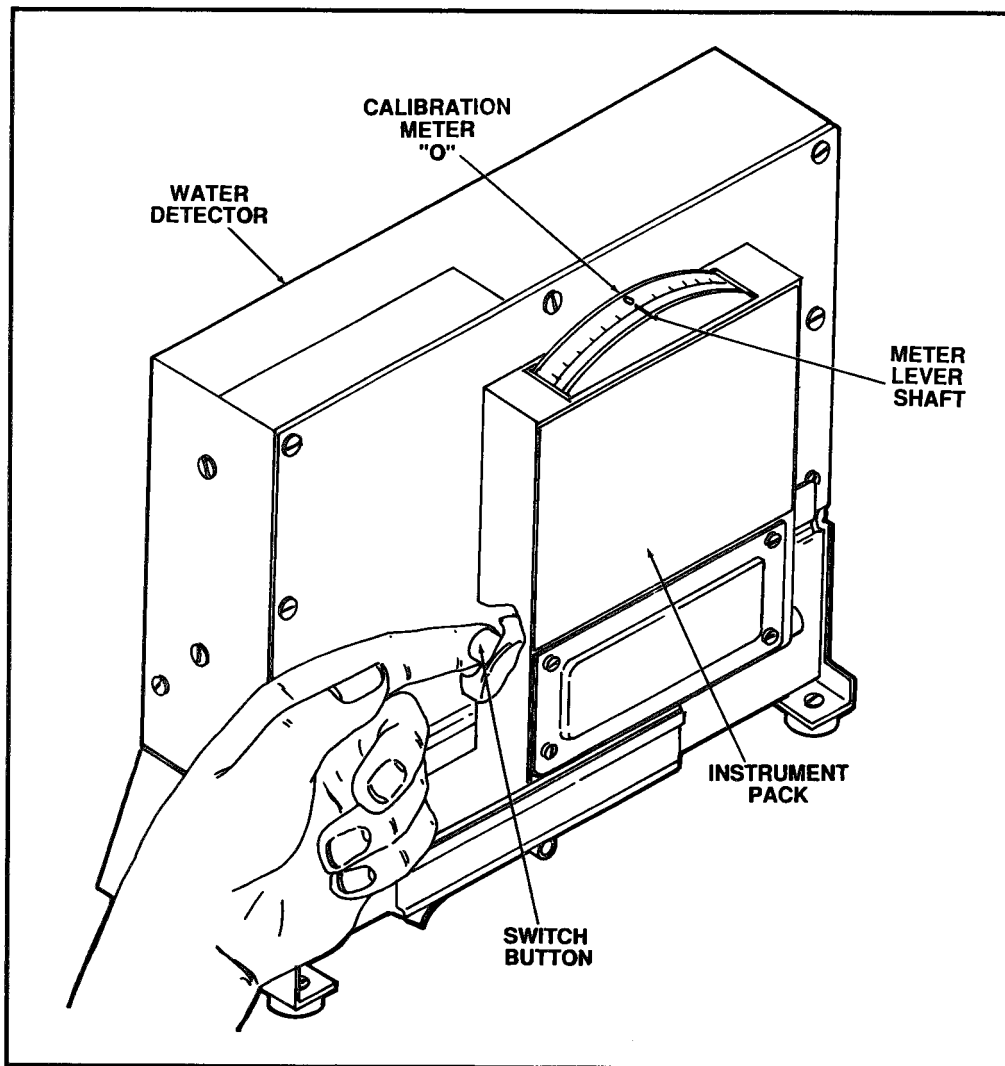

Figure 2.25 Calibration Meter Lever Shaft Reading "0"
e. Depress the switch button on the instrument pack and read the calibration meter: if the meter reads "0", the water detector calibration procedure is complete (Figure 2.25). If the meter reads any increment other than "0", you must adjust the internal calibration screw until the water detector is "zeroed-out" (i.e., the meter lever shaft reads "0"). See **f.**, **g.**, and **h.** below for instructions. Also refer to the calibration card stored with Kit Find No. 34.